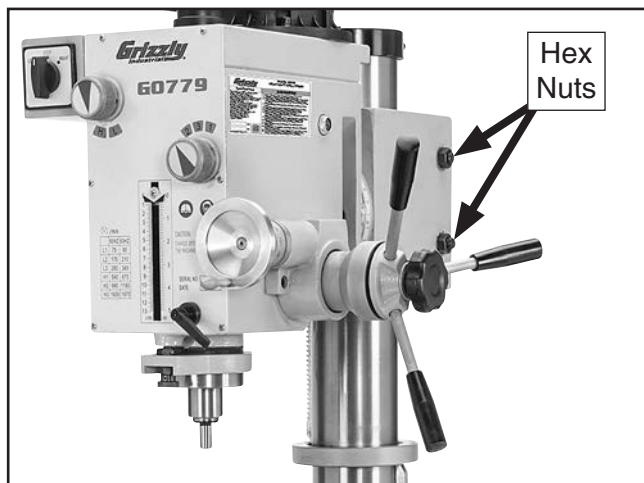

Figure 14. Location of hex nuts that lock headstock to column.
2. Loosen two hex nuts shown in **Figure 14**.
2. Loosen hex nuts shown in **Figure 14**.